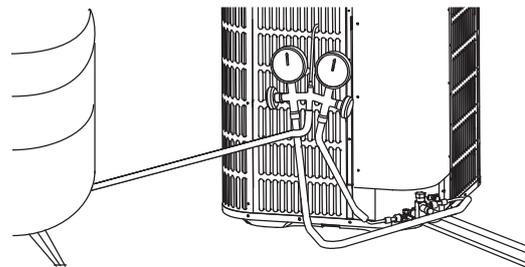

Figure 16-6
- Connect gauges to refrigerant bottle and unit as illustrated (Figure 16-6).